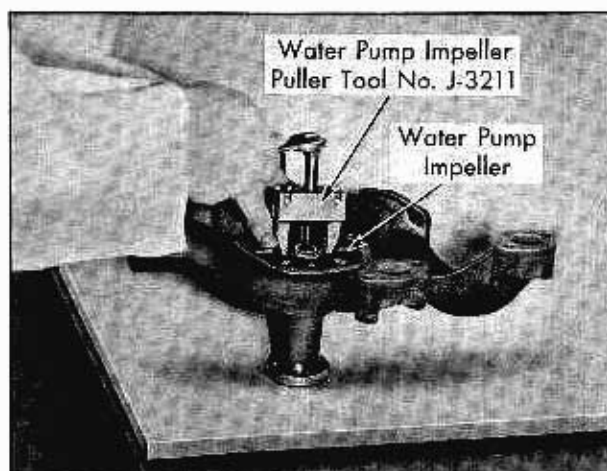

Fig. 13-5 Removing Impeller From Pump
5. Remove the plastic impeller from pump shaft with Water Pump Impeller Puller Tool No. J-3211, Fig. 13-5.